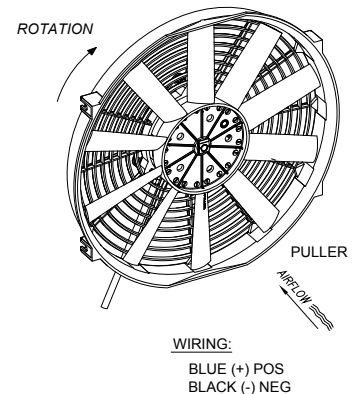

FIGURE 5
3. After seating blade, replace clip. Puller configuration should look as shown in **FIGURE 5**. Note: Fan wiring changes to BLUE (+) POS and BLACK (-) NEG.